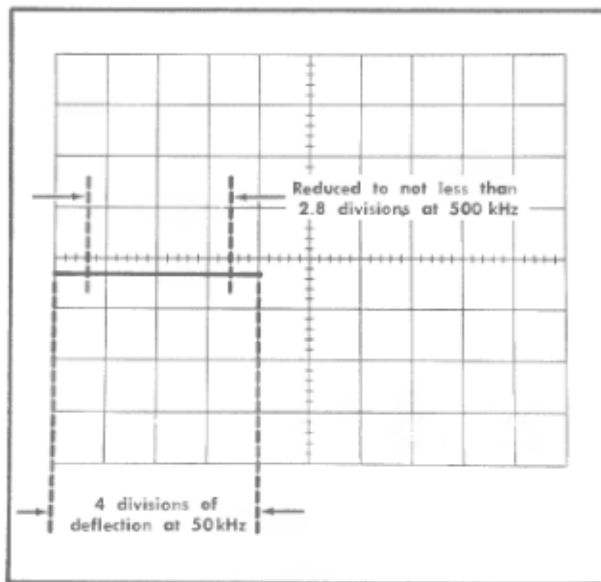

Fig. 6-55. Typical CRT display when checking external horizontal frequency response.
d. Without changing the output amplitude, increase the output frequency of the constant-amplitude generator until the display is reduced to 2.8 divisions (−3 dB point; see Fig. 6-55).